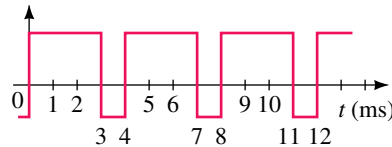

FIGURE 11-64
40. Repeat Problem 39 for the waveform of Figure 11-64.